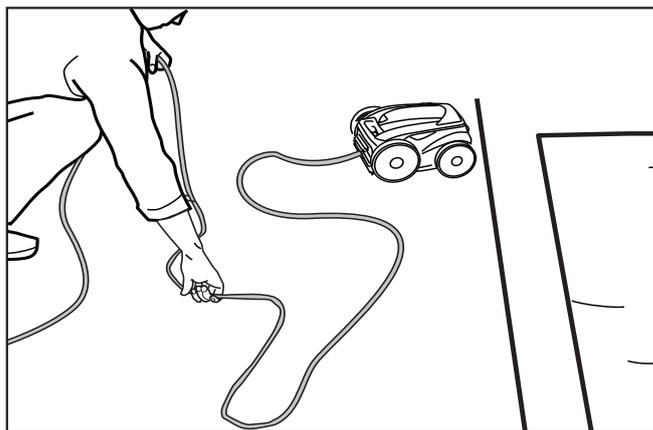

Figure 22. Smooth the Floating Cable
2. Starting at the cleaner head. Remove all coils and tangles from the floating cable (Figure 22).